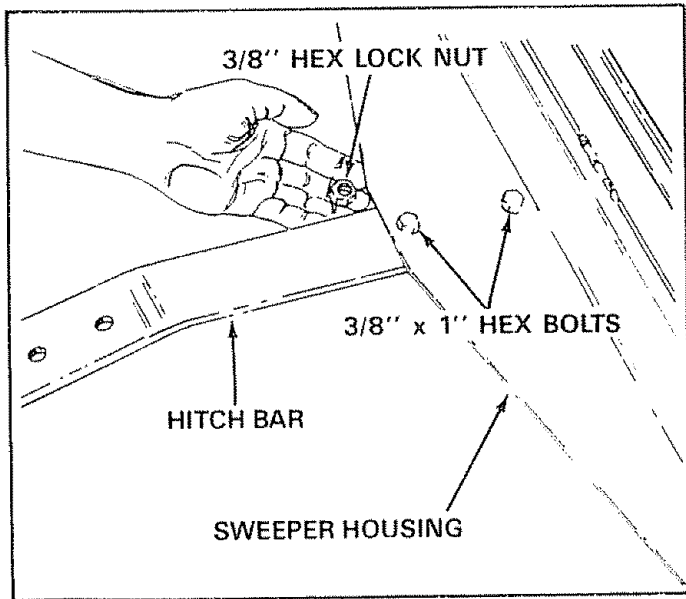

FIGURE 3
1. Assemble the hitch bar to the sweeper housing, place hitch bar under sweeper housing as shown in figure 3, then secure hitch bar with two 3/8" x 1" hex bolts and 3/8" lock nuts. See figure 3. **Do not tighten at this time.**